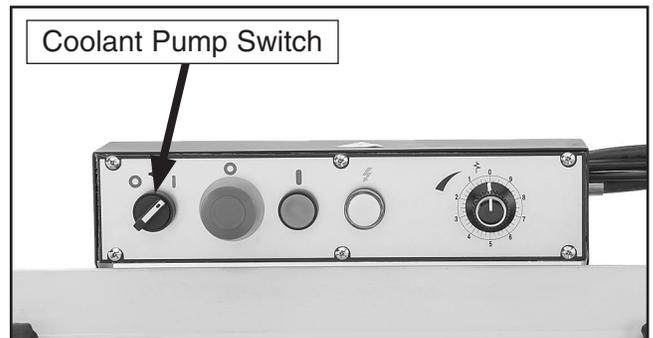

Figure 15. Coolant pump switch location.
14. Start machine, then turn coolant pump switch to ON position (see **Figure 15**). Verify that coolant flows through nozzles into tubing and blade guides, then turn pump **OFF** and press Emergency Stop button.